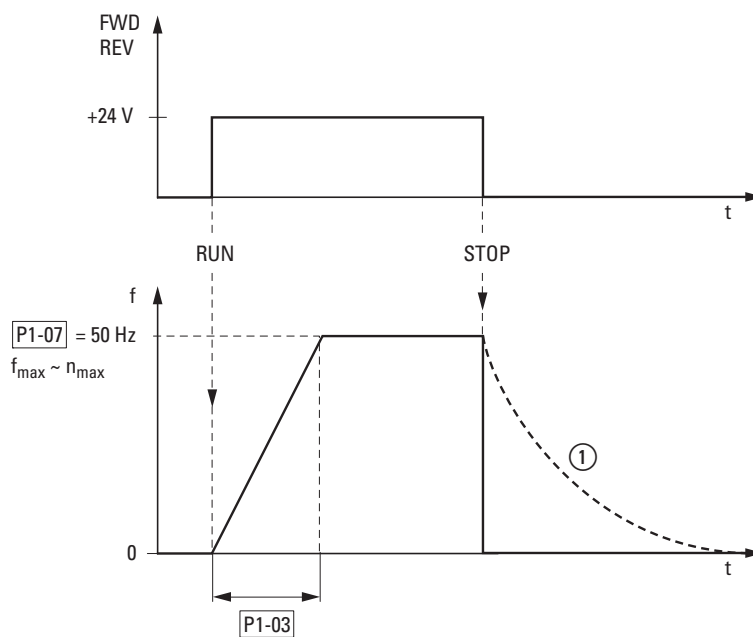

Figure 90: Start-stop command at maximum set point voltage
Figure 90 shows an example of the course when the enable signal (FWD/REV) is switched on and the maximum setpoint voltage (+10 V) is present. The speed of the motor follows the output frequency, depending on the load torque and moment of inertia (slip), from 0 to  $n_{\text{max}}$ .
If the enable signal (FWD, REV) is switched off during operation, the inverter will be disabled immediately (STOP) and the output frequency will be set to 0. The motor stops uncontrolled (see ① in Figure 90). The acceleration time is set in parameter P1-03.